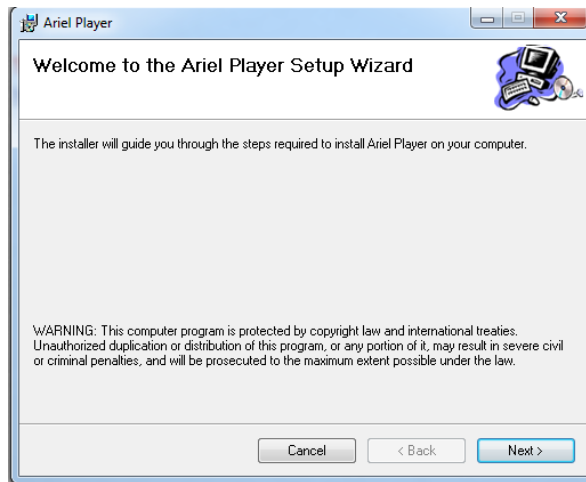

Figure 90: Ariel Player Setup Wizard Screen 1
- c. Click **Run anyway**. The Windows Installer opens and the **Ariel Player Wizard** dialog box is displayed (see Figure 90: Ariel Player Setup Wizard Screen 1). Continue with step 3.